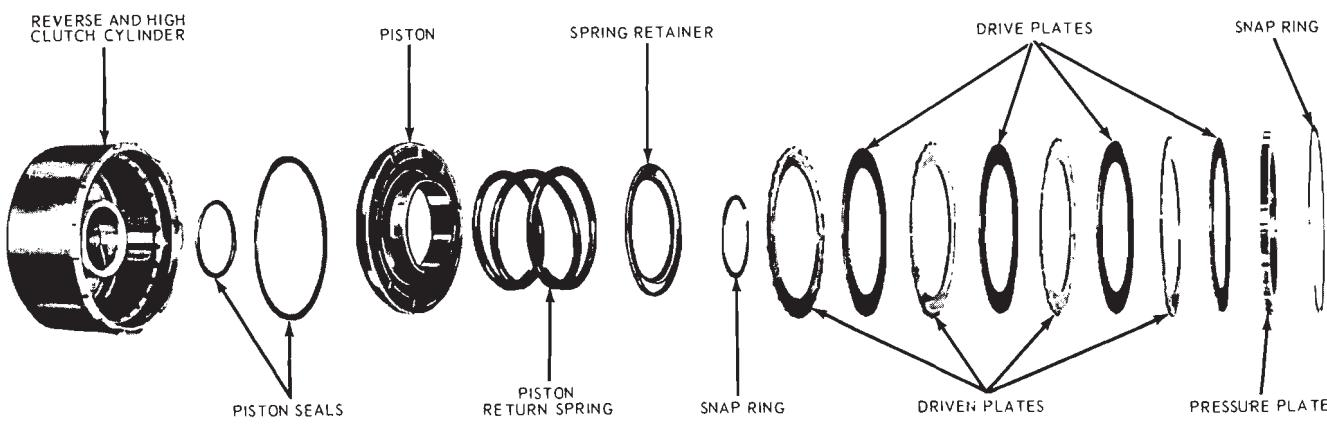

FIG. 75—Reverse-High Clutch Disassembled
2. Remove the pressure plate, and the drive and driven clutch plates (Fig. 75). If the composition clutch plates are to be reused, do not clean them in a vapor degreaser or with a
6. Remove the piston outer seal from the piston and the piston inner seal from the clutch drum (Fig. 75).
4. When new composition clutch plates are used, soak the plates in transmission fluid for fifteen minutes before installing them. Install the clutch plates alternately starting with a steel plate, then a non-metallic plate (Fig. 75). The last plate installed is the pressure plate. For the correct number of clutch plates required for each transmission model, refer to the Specification Section.
5. Install the pressure plate retaining snap ring (Fig. 75). Make sure the snap ring is fully seated in the snap ring groove of the clutch hub.